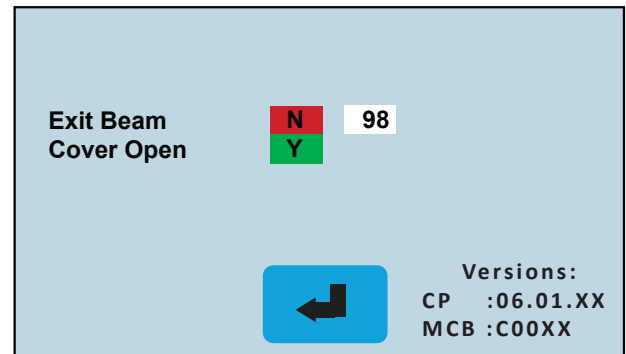
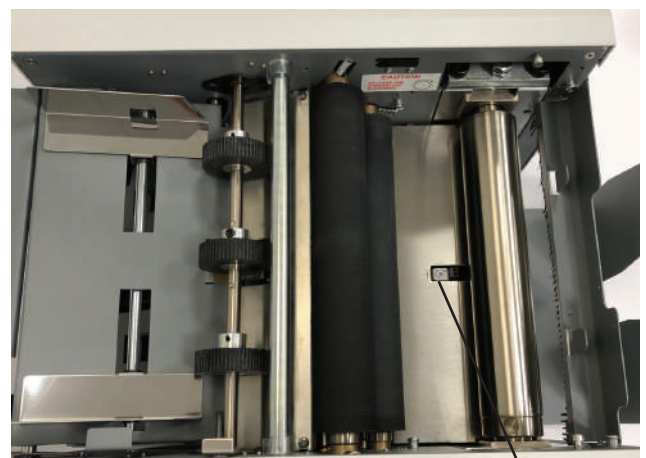

Fig. 44
Fig. 45
1. From the Service Mode Home Screen select the Sensor Test Icon . The Sensor Test Screen will be displayed (Fig. 44).
2. To test the Cover Open sensor, lift the top cover. If the sensor is working properly, the red box with "N" will turn into a green box with "Y" (Fig. 44).
3. To test the Exit Sensor Photo Eye, remove the top cover, then unplug and remove the upper fold table. Place a piece of white paper over the photo eye (Fig. 45). If the sensor is working properly, the red box with "N" will turn to a green box with "Y" and the number next to it should increase (Fig. 44).
3. To Exit press the Enter icon  (Fig. 44).